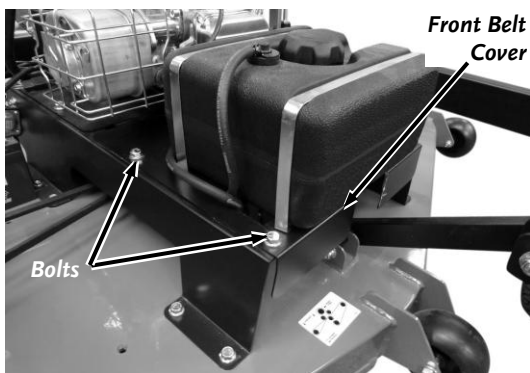

Figure 54
1. Remove the four bolts securing the Front Belt Cover using a 9/16" Wrench and remove the Cover (**Figure 54**).